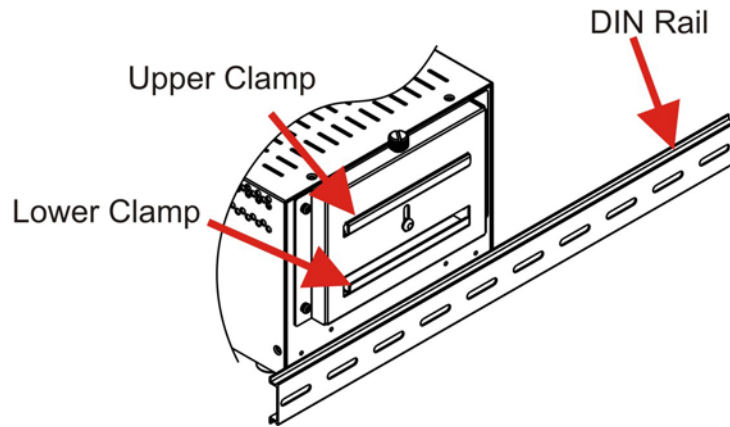

Figure 5-25: Mounting the DIN RAIL
Step 3: Place the DIN rail flush against the back of the mounting bracket making sure the edges of the rail are between the upper and lower clamps (**Figure 5-25**).